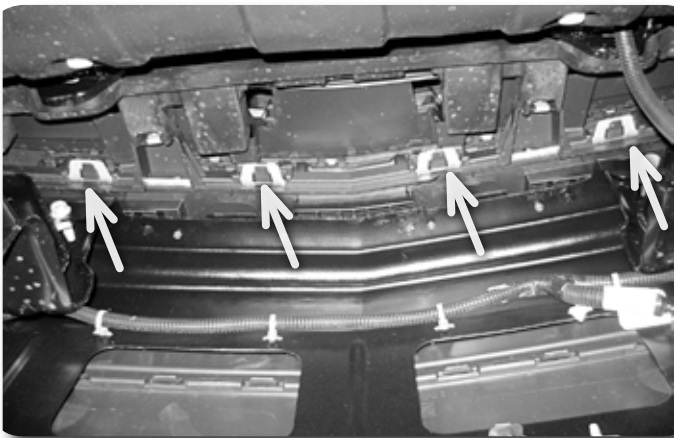

Figure 4 - 4 of 6 clips shown
4. Remove the six clips holding the grill valence to the grill from the inside. **Figure 4**